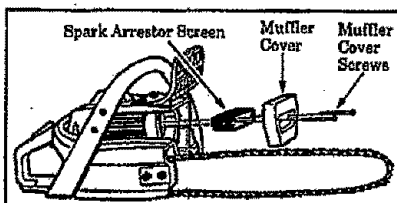

Figure 36
2. Remove the Muffler Cover Screws and Muffler Cover. Figure 36.
3. Remove the Spark Arrestor Screen. Figure 36.